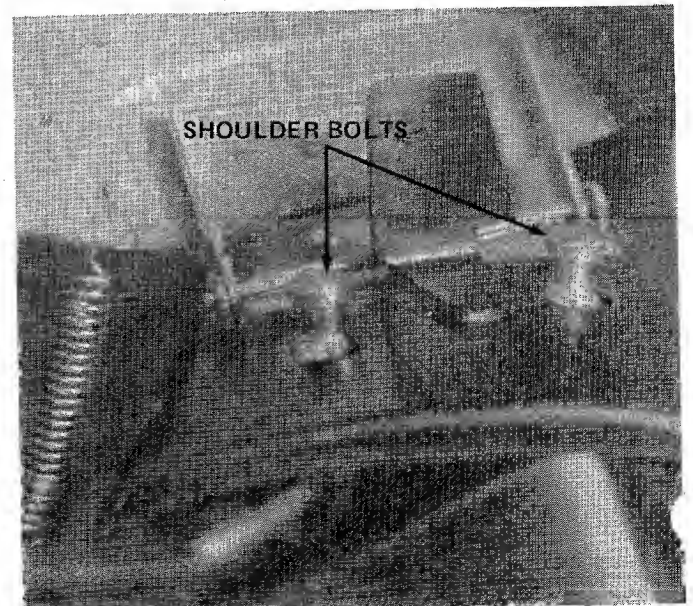

FIGURE 6
4. Fasten shoulder bolt to deck with flat washer and hex nut. See figure 6.
5. Slip grass catcher frame over head of shoulder bolts. See figure 6.